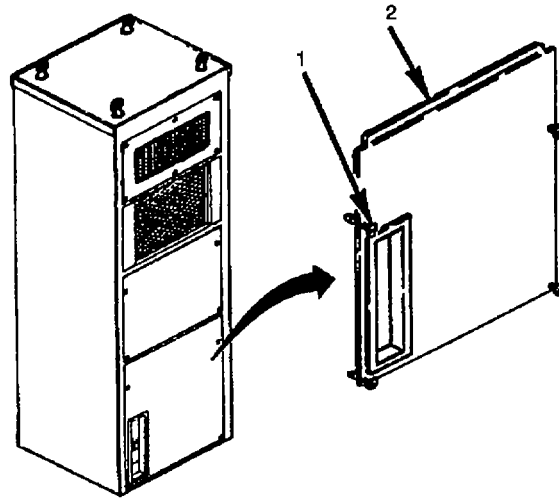

Figure 4-4. Compressor Section Panel Removal
4.10.3 Compressor Section Panel. Loosen four captive fasteners (1) and remove panel (2) (see fig 4-4).